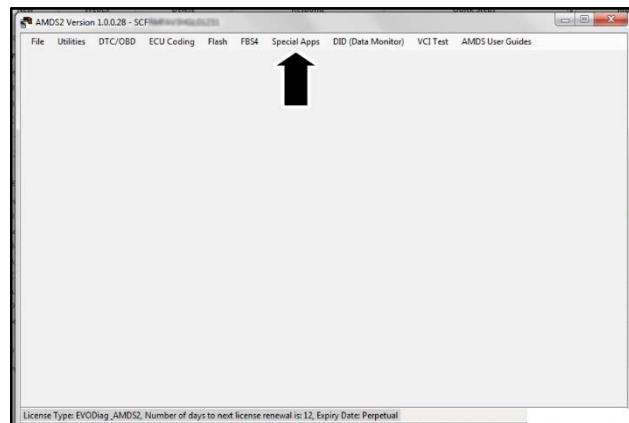

Figure 1
3. From the AMDS landing page select "Special Apps" (refer to Figure 1)